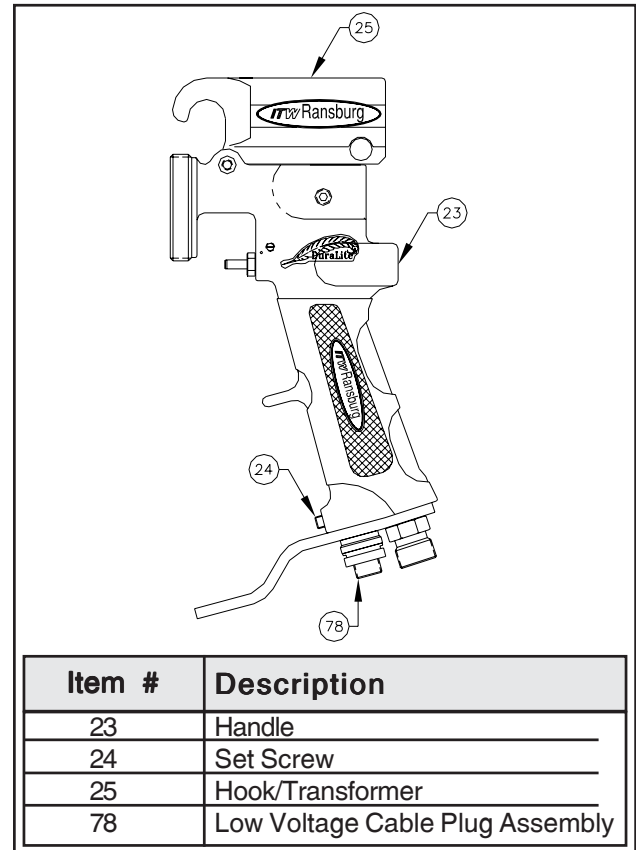

Figure 21: Low Voltage Cable Plug Removal
(Refer to Figure 21)
3. Use a 3/32-inch hexagon Allen wrench to loosen (DO NOT remove) the set screw that retains the low voltage cable plug assembly to the handle. The set screw is located toward the bottom of the handle on the front side (see Figure 21).